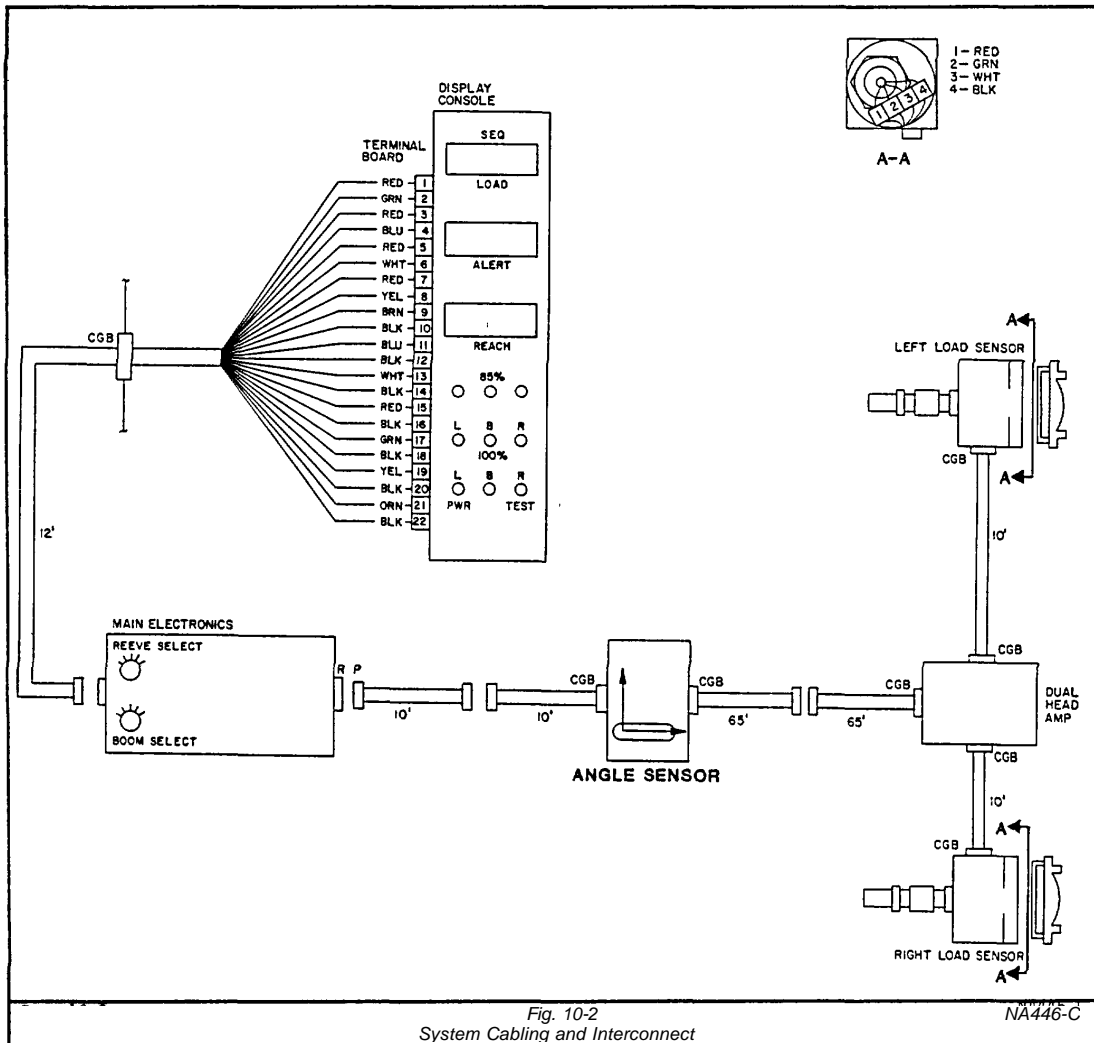

Fig. 10-2
The location of each assembly is shown in Fig. 10-1. Fig. 10-2 shows the connections between each assembly.
Reach meter and Alert meter read correctly, but Load meter value decreases as more weight is hoisted.	<ol style="list-style-type: none"> (1) Refer to Fig. 10-2. Rewire the load pin terminal strip. Remove the round screw on cover. Remove cover from load sensor assembly. Reverse wires at terminal 2 and 3. Replace cover and tighten round screw. (2) Contact the FMC Service Department.